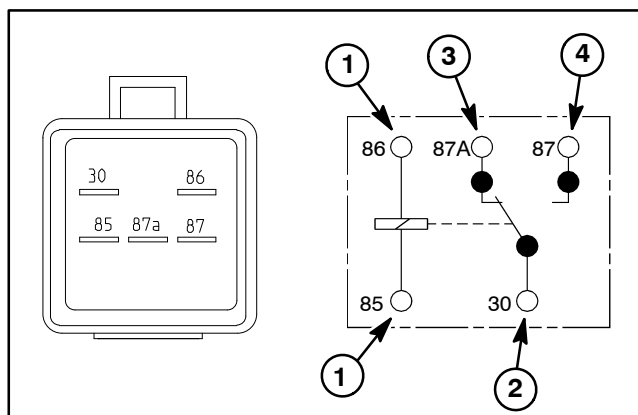

Figure 20
3. Using a multimeter (ohms setting), measure coil resistance between terminals 85 and 86 (Fig. 20). Resistance should be between **70 and 90 ohms**.